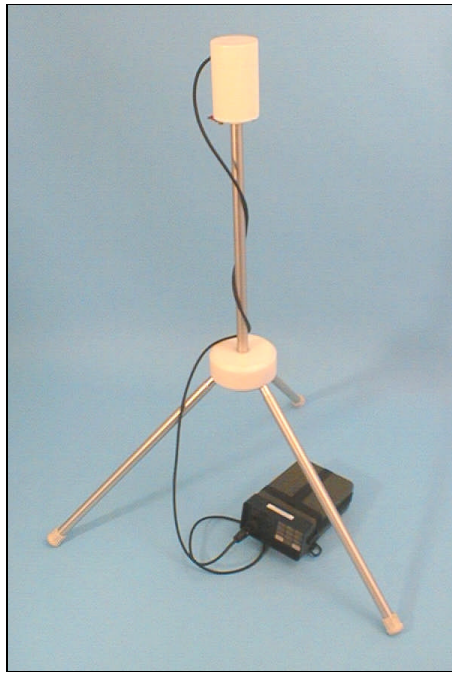

Figure 16. Base-station setup up using tripod kit and G-856AX staff section.
The tripod kit includes a tripod base and two (2) leg tips. The tripod assembly is shown in Figure 16 with sensor attached. Here, the bottom staff section and the two middle staff sections have been inserted into the three inclined holes on the underside of the tripod base. Leg tips have also been slipped on the ends of the two middle staff sections. Attach the sensor to the top staff section before inserting this piece into the tripod base. The top staff section is inserted into the central hole on the top of the tripod base so that it slides past the internal O-ring and rests on the bottom of the hole. The O-ring will prevent the sensor from rotating under the influence of the wind.